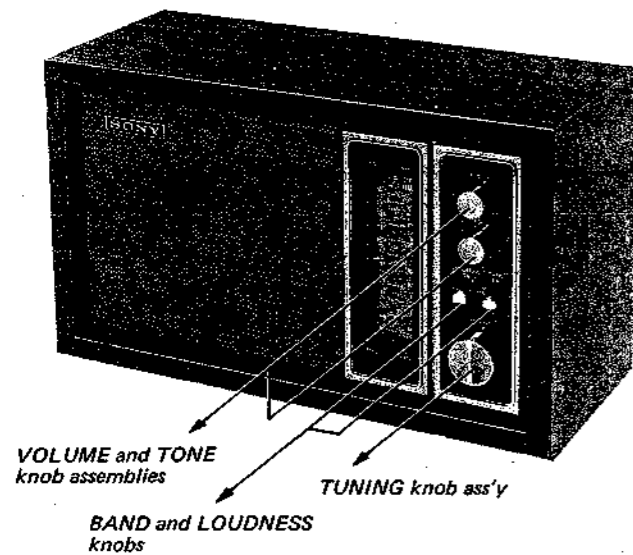

Fig. 2-2.
- ② Pull off VOLUME, TONE and TUNING knob assemblies, BAND and LOUDNESS knobs shown in Fig. 2-2 below.